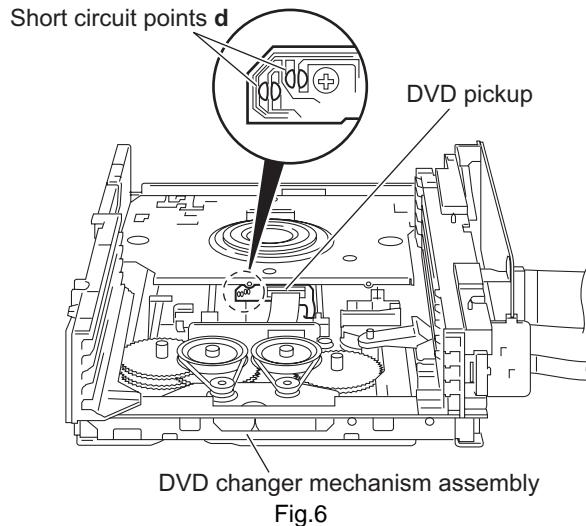

Fig.6
(See Figs.6 and 7)
- (1) From the topside of the DVD changer mechanism assembly, solder the short-circuit points **d** on the DVD pick up. (See Fig.6.)
### 3.2.6 Removing the DVD traverse mechanism assembly (See Figs.6 and 11)
- From the topside of the DVD changer mechanism assembly, solder the short-circuit points **d** on the DVD pick up. (See Fig.6.)